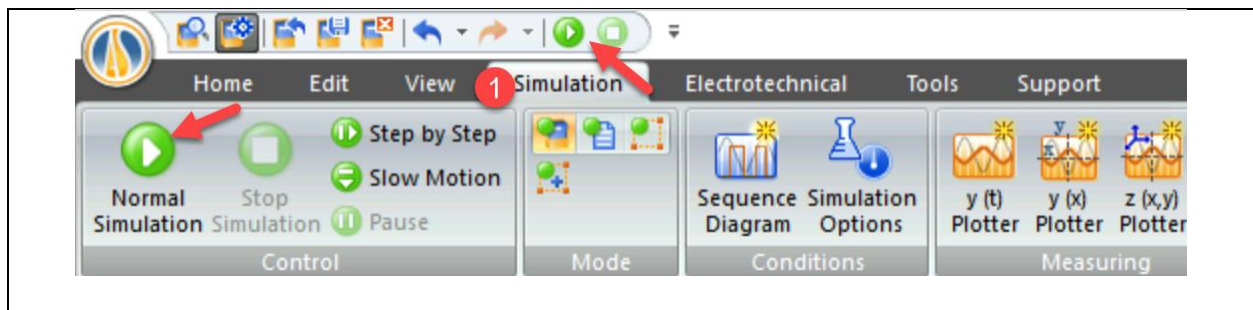

Figure 4. Starting the Simulation in Automation Studio.
2. Figure 4 shows the steps to start the Simulation: